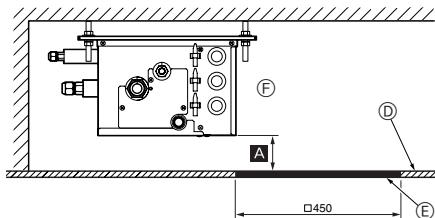

Fig. 4-6
#### (2) Side View (Fig. 4-5, Fig. 4-6)
In the case of "□ 450", prepare a maintenance hole at a PCB side (as it is shown in Fig. 4-6), and "Min. 300 mm" is needed as distance Ⓢ.